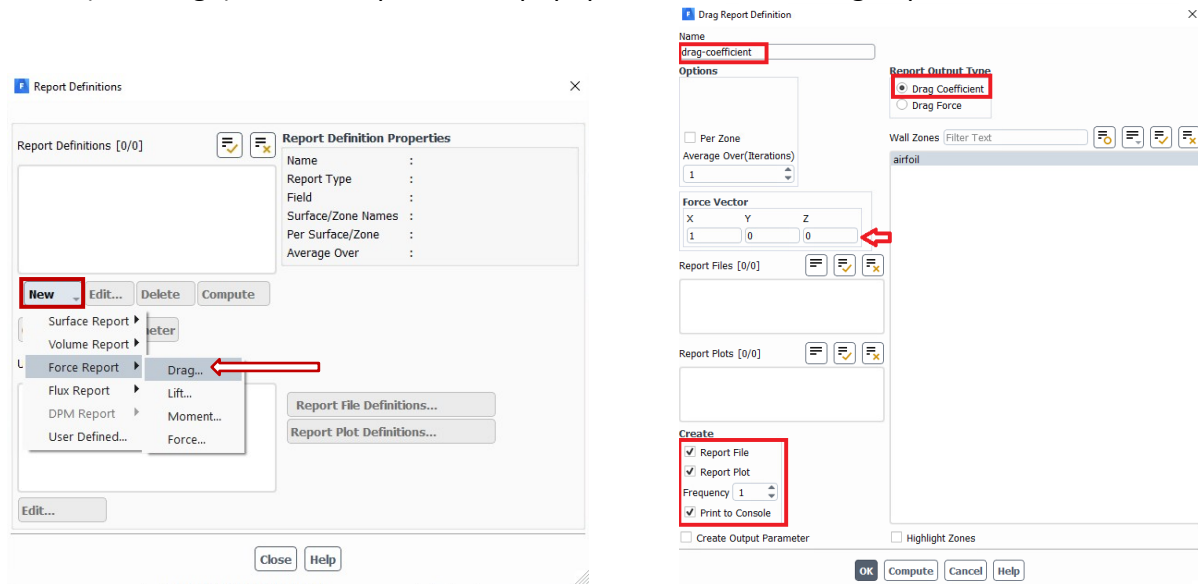

Figure 15. Creating the definition for the drag coefficient report.
3.4.2. Under the Report Definitions box, click **New**. Then select **Force Report > Drag**, as shown in Figure 15 (left image). This will open a new popup window called Drag Report Definition.
3.4.3. In the **Drag Report Definition** popup window, ensure the following settings are selected, as shown in Figure 15 (right image):